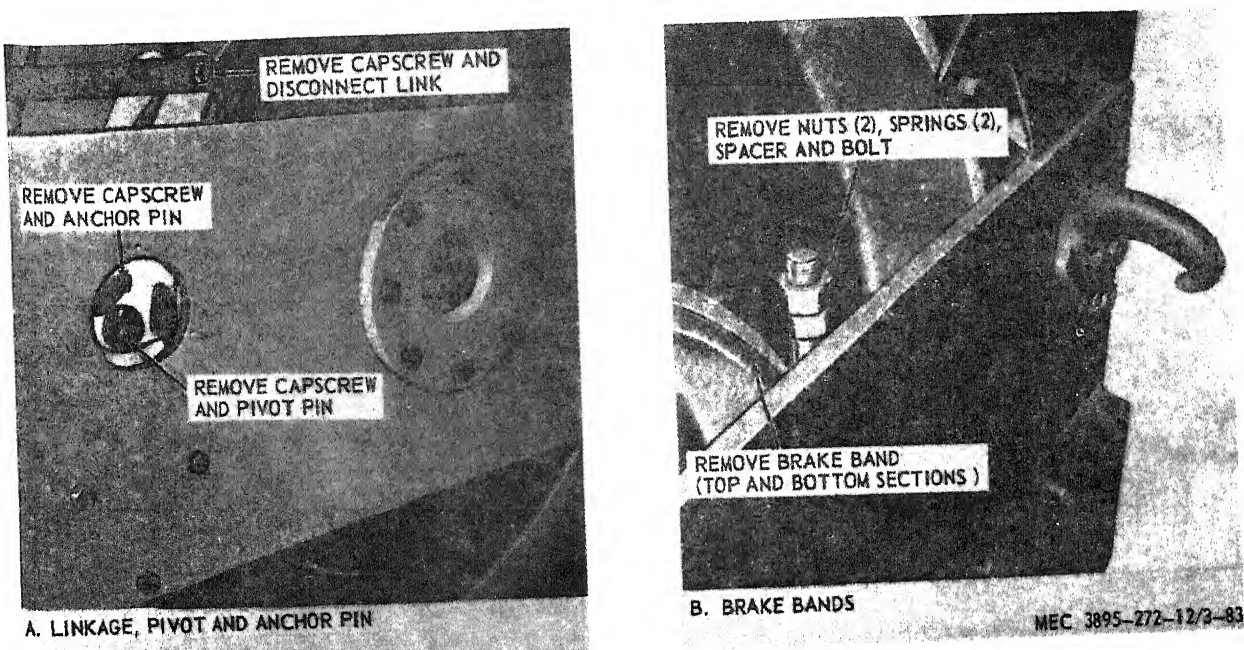

Figure 3-83. Parking brake, removal and installation.
*a. Removal.* Remove the parking brake from the drive roll as instructed on figure 3-83.
- (1) Clean all parts with an approved cleaning solvent.
- (2) Inspect the lining for wear and damage. Replace worn or damaged lining.
- (1) Install the parking brake in reverse of the instructions on figure 3-83.
- (2) Adjust parking brake (para 3-16).